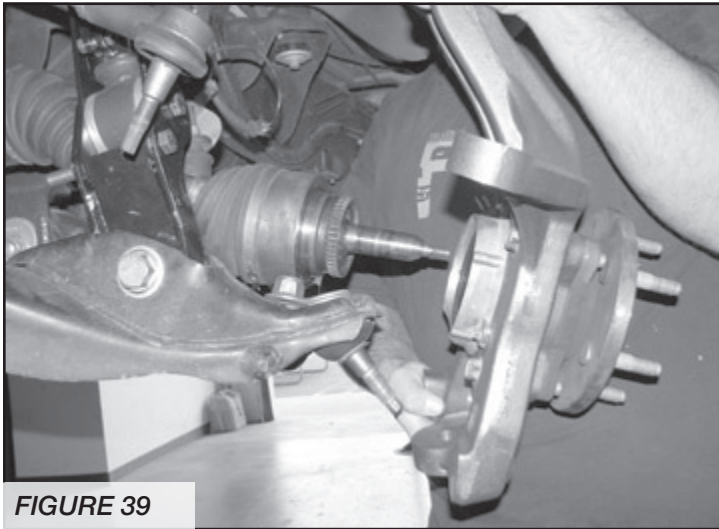

FIGURE 39
40. Install the Fabtech spindle onto the upper and lower control arms. Torque the upper ball joint to 85 ft-lbs and the lower ball joint to 110 ft-lbs. **SEE FIGURE 39**